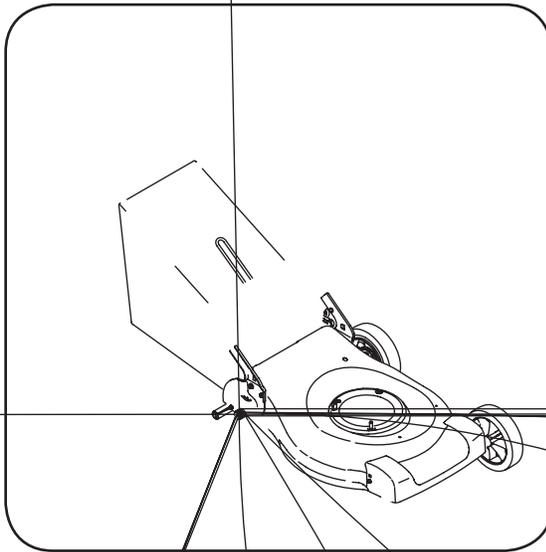

Figure 5-1
1. Lubricate the pivot points on the blade control handle at least once a season with light oil. The blade control must operate freely in both directions. See Figure 5-1.
3. Lubricate the torsion spring and pivot point periodically with light oil to prevent rust. See Figure 5-1.